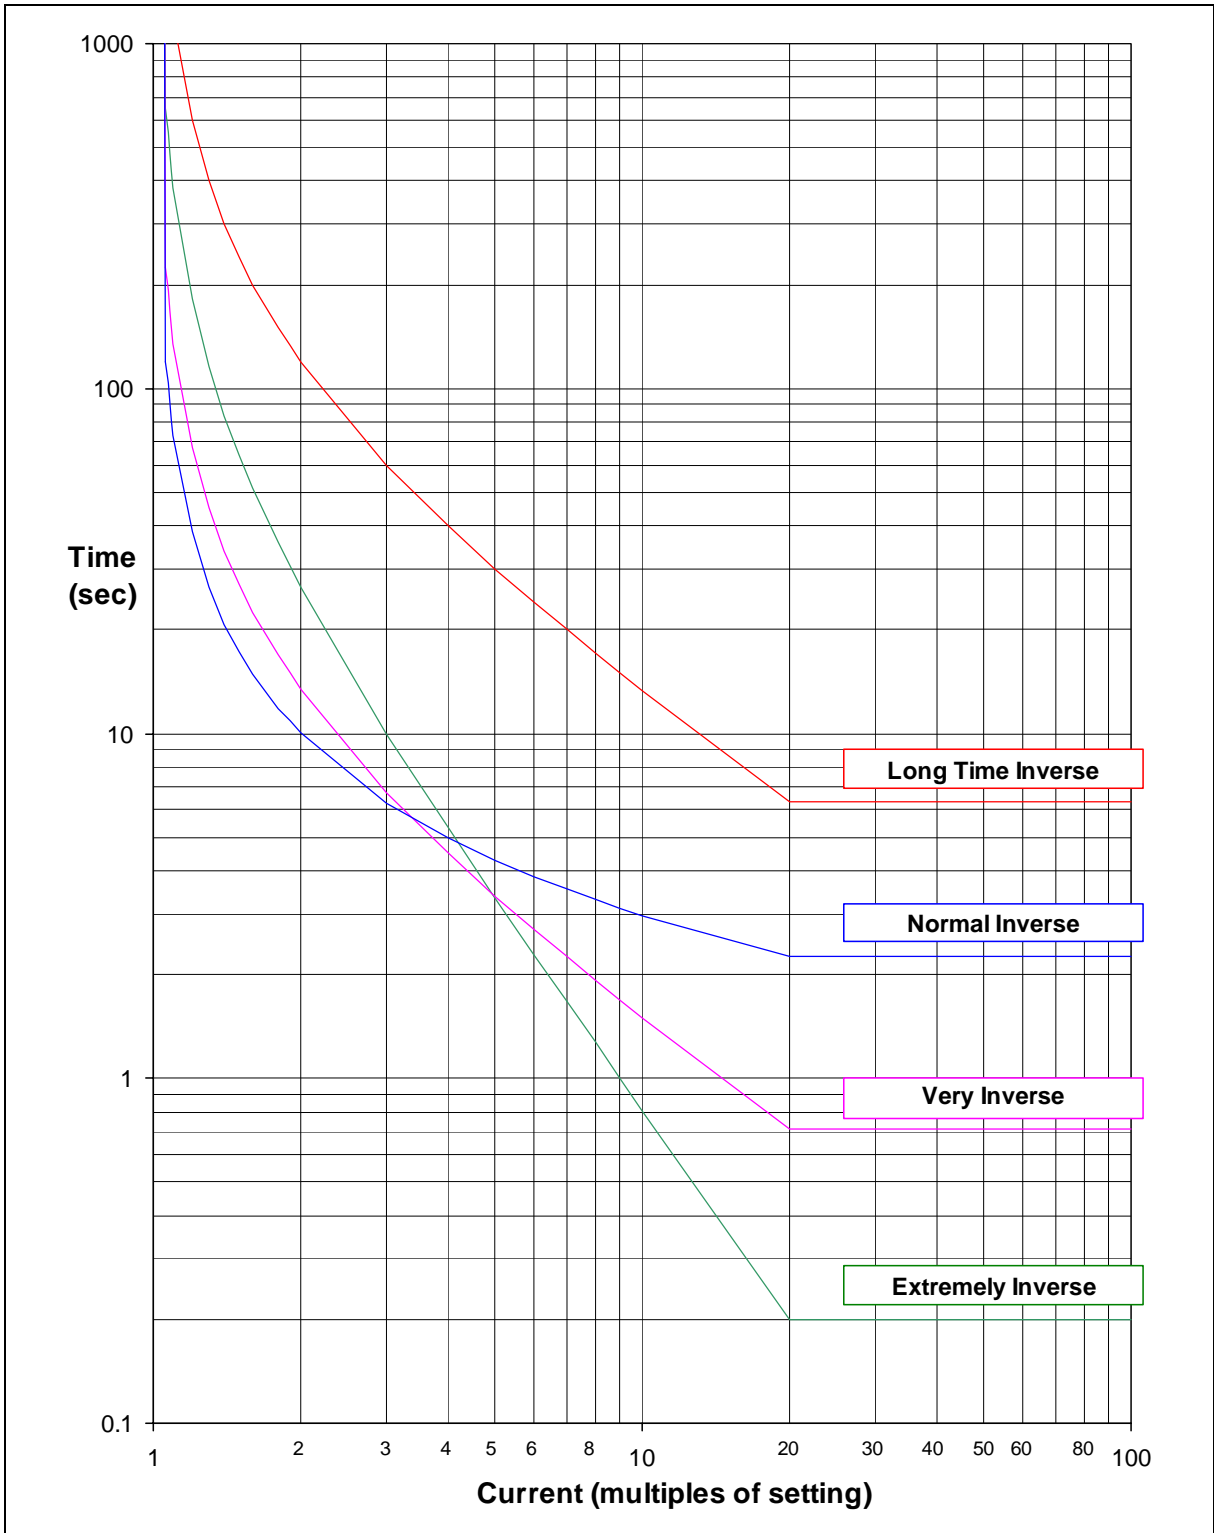

Figure 2-2 IEC IDMTL Curves (Time Multiplier=1)
**Figure 2-2 shows the operate times for the four IEC IDMTL curves with a time multiplier of 1.**